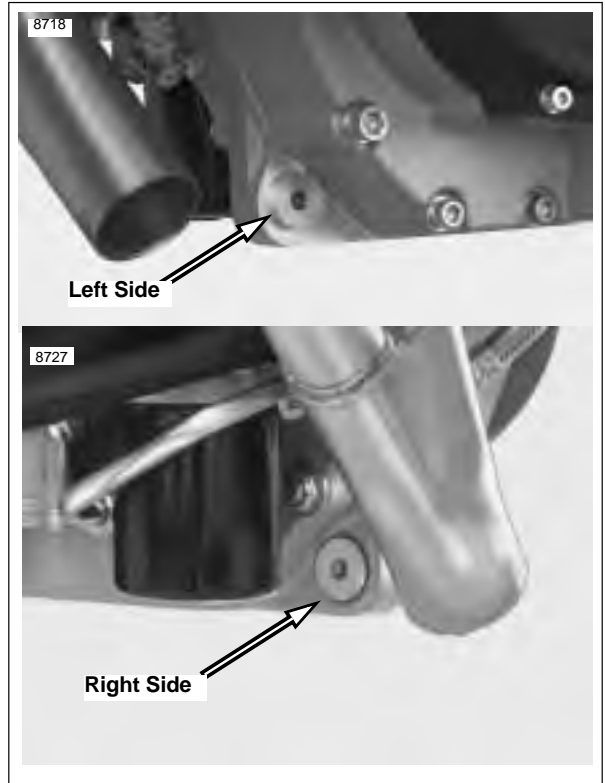

Figure 3-28. Front Exhaust Mount Bushings (2 piece)
- d. See Figure 3-28. Aluminum bushings from front exhaust mount.